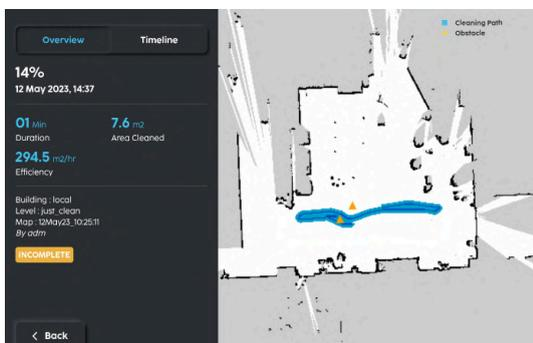

FIGURE 7-17
4. Tap on an individual cleaning report to see the details of that cleaning mission (Fig. 7-17).